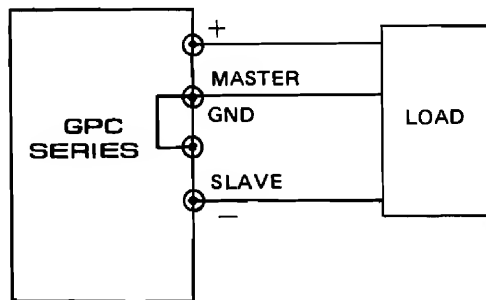

Fig. 5-4 Positive and Negative Supply
- G. If the chassis or common of the equipment being powered is separate from both the positive and negative polarity power inputs. The output of the SLAVE (negative) supply tracking the output of the MASTER (positive) supply, the configuration as shown in Fig. 5-4.